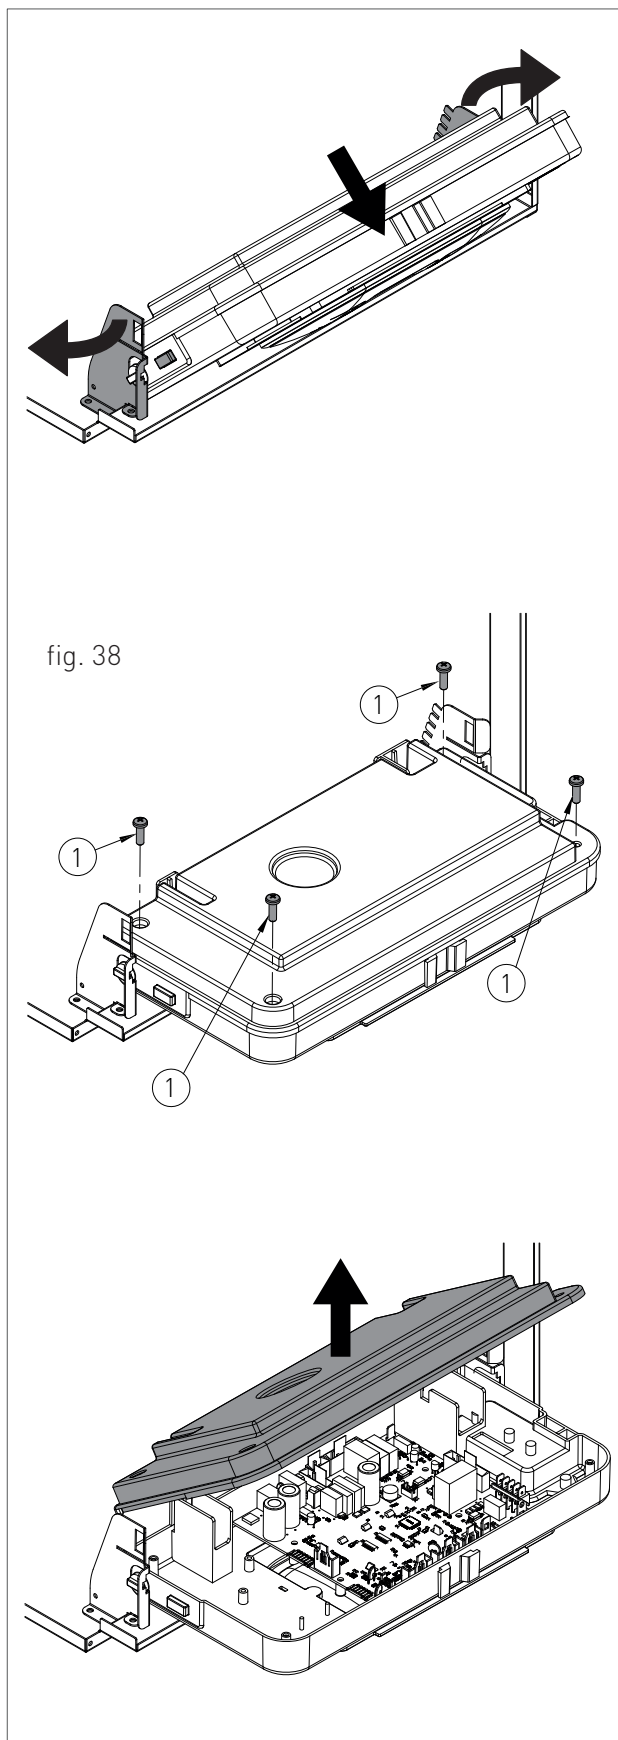

fig. 38
- › Grab at the same time the support brackets of the control panel (fig. 38) loosening them and turn the panel downwards;
- › unscrew the four fastening screws 1 - fig. 38;